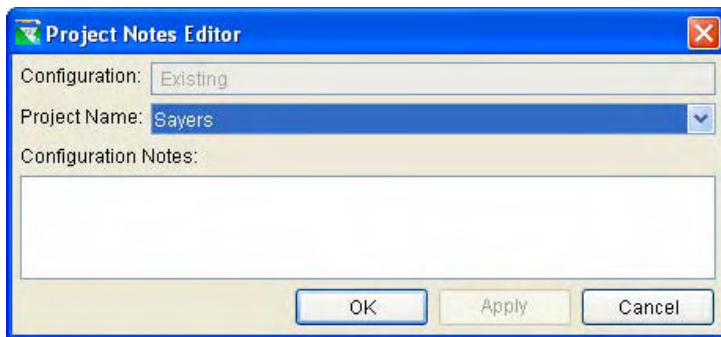

Figure 7.6 Project Notes Editor
2. Choose **Project Notes** from the **Edit** menu. The **Project Notes** dialog opens (Figure 7.6).